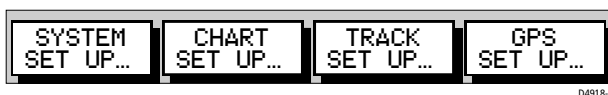

Figure 3-53: Set Up Soft Keys
1. From the chartplotter display, press the **MENU** key to display the set up soft keys as shown in *Figure 3-53*.